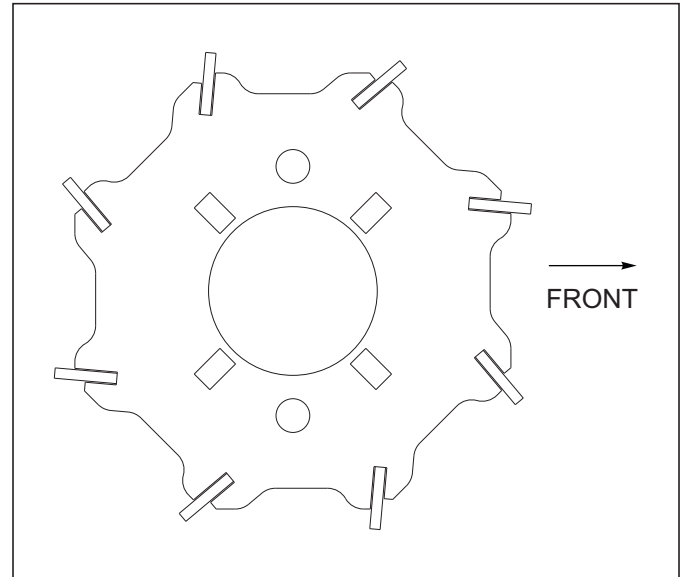

Figure 3-21: Flat Reel
7. Attach flat bar reels with angled blades as shown (See Figure 3-21)